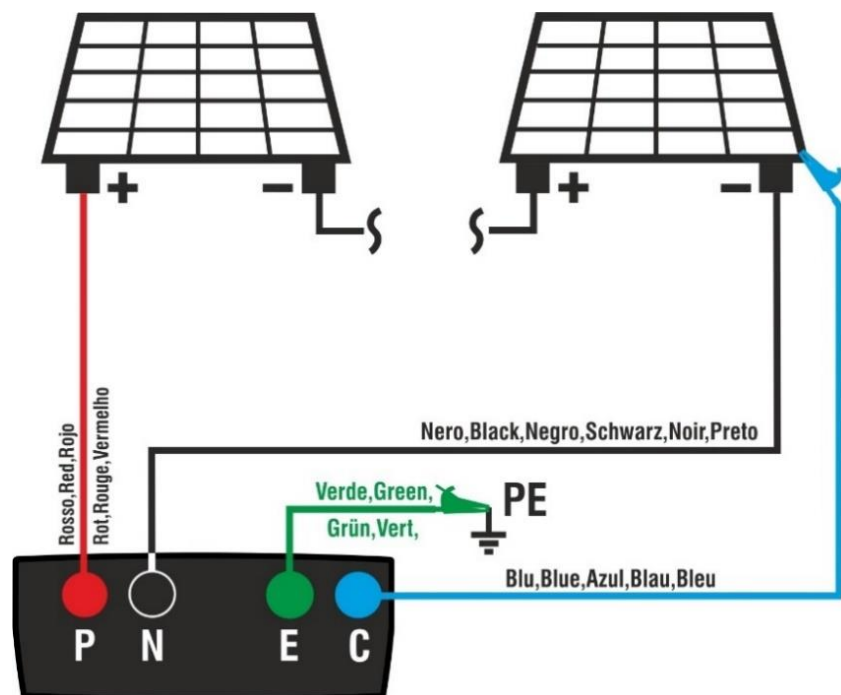

Fig. 11: Connection for IVCK tests without remote unit
5. Connect the instrument to the PV module/string being tested and to the main earth node of the system, and to the metal masses connected to earth as shown in Fig. 11. In particular, connect the negative output pole of the PV module/string to terminal N and the positive output pole of the PV module/string to terminal P.